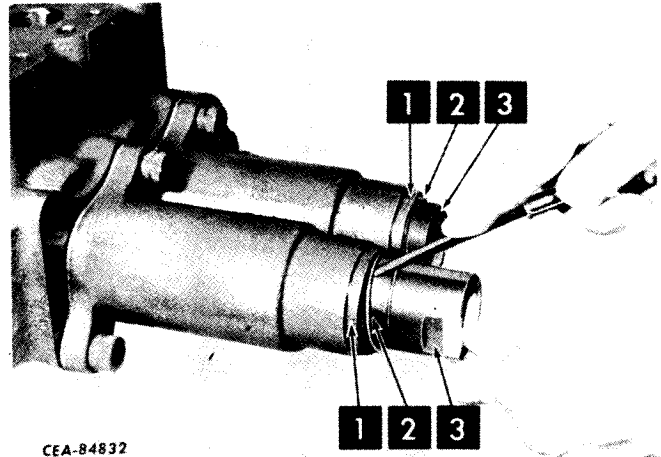

Figure 11-41
Remove Spir-O-Lox (2, Fig. 11-41) and spacer (1) from detent sleeve (3).
Inspect the spacer (1, Fig. 11-41) and Spir-O-Lox (2) for damage. Install spacer and Spir-O-Lox being sure Spir-O-Lox is properly seated in detent sleeve groove.